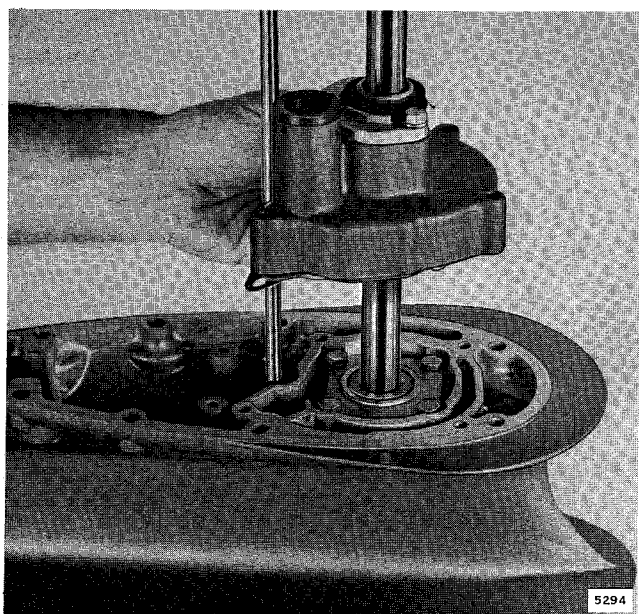
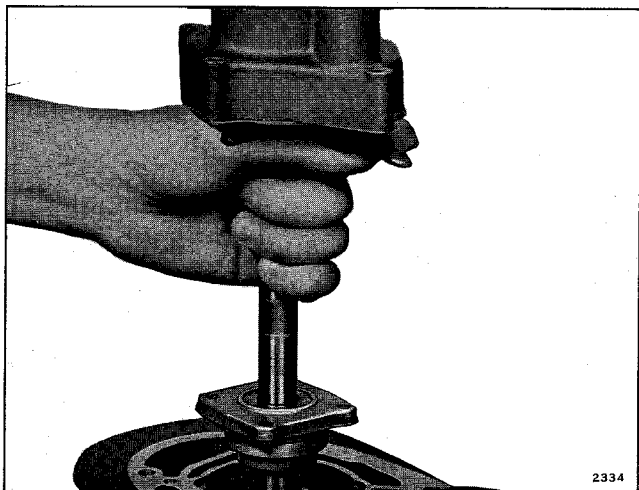

Figure 6-12. Water Pump Assembly
Figure 6-13. Removing Driveshaft and Water Pump
b. Remove four screws attaching impeller housing to upper gearcase. Slide complete impeller assembly up on driveshaft to expose bearing cap assembly. See Figure 6-12. Remove four screws attaching bearing cap assembly to lower gearcase. Driveshaft with bearing and impeller assemblies, may now be lifted from lower gearcase. See Figure 6-13.